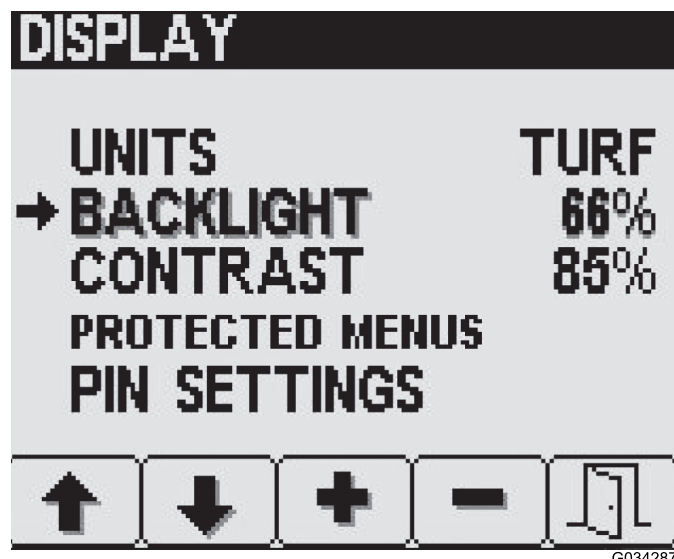

Figure 11
1. Press button 2 on the Display settings screen until you reach Backlight or Contrast (Figure 11).
2. Use buttons 3 and 4 to set the desired value (Figure 11).